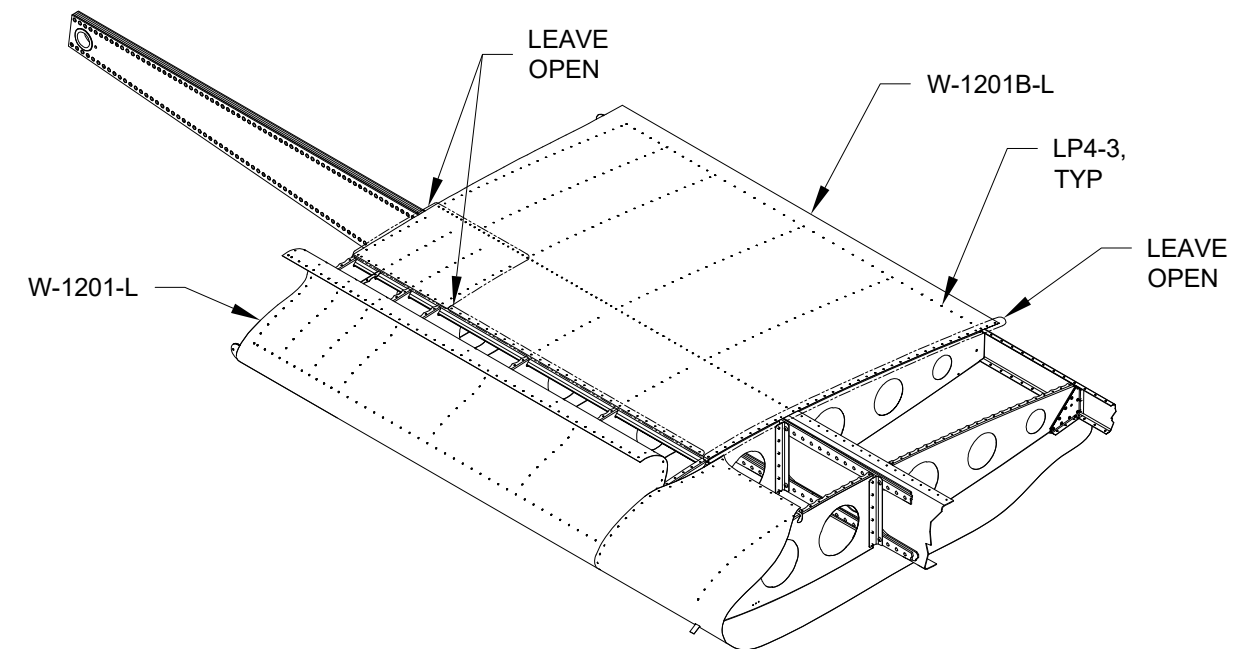

FIGURE 3: INBD UPPER WING SKIN INSTALLATION
Step 5: Position the W-1201B-L Inbd Upper Wing Skin on the wing skeleton as shown in Figure 3. The stiffening flange along the leading edge of the inbd upper wing skin should drop into the cut-outs in the W-1208-1 Nose Ribs when you lift the trailing edge of the inbd upper wing skin. Cleco then rivet the inbd upper wing skin to the skeleton leaving holes open as shown in Figure 3.